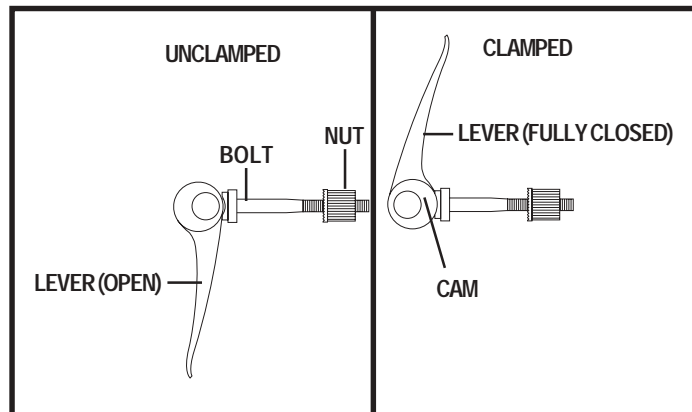

Figure 14. Quick Release Fastener Operation
2. Tighten and clamp the quick-release fastener. See figure 14.
**Quick Release Fasteners:** The seat is secured to the seat post with a quick release fastener. The quick release fastener consists of a bolt, a lever, and a nut. See figure 14. The lever has a cam on the end that allows it to clamp into place. The quick release fastener has two states: clamped and unclamped. When the lever is open, the quick release fastener is unclamped. When the lever is closed, the quick release fastener is clamped.
7. Tighten and clamp the quick release fastener. See figure 14.